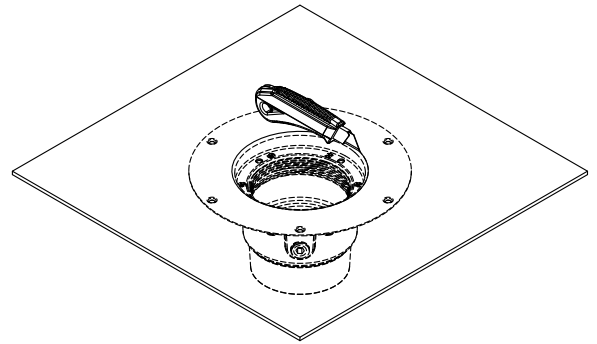

Fig. 5
5. Install the waterproofing membrane per manufacturers instructions. Cut and remove waterproofing membrane along inside circumference of the deck plate. See Fig. 5